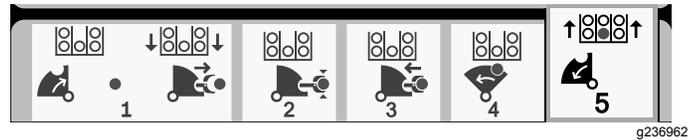

Figure 25
10. Release the button to proceed to the next step in the sequence (Figure 25).